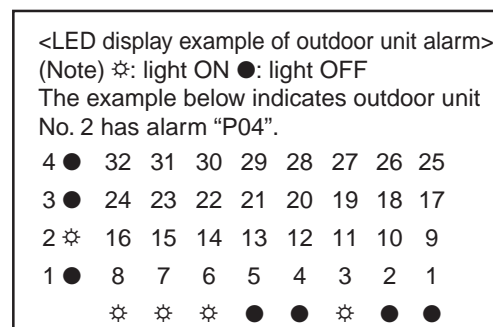

Fig. 1-10
- In case of outdoor unit and CCU alarm, both outdoor alarm LED (yellow) and CB alarm LED (yellow) light up and alarm messages are displayed on LED as shown in Fig. 1-10.